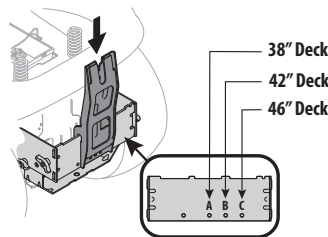

Figure 9
1. Install the vertical support bracket onto the mounting assembly on the tractor by hooking it over the cross mounting bracket. See Figure 9.